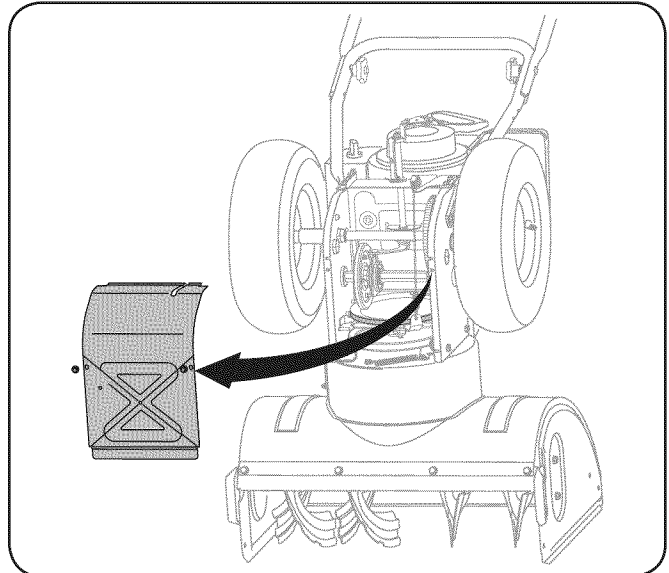

Figure 7-3
2. Remove the frame cover from the underside of the snow thrower by removing four self-tapping screws which secure it. Refer to Fig 7-3.
5. Remove the frame cover from the underside of the snow thrower by removing four self-tapping screws which secure it. See Fig 7-3.
5. Remove the frame cover from the underside of the snow thrower by removing four self-tapping screws which secure it. Refer to Fig. 7-3.